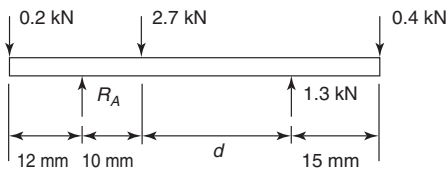

Figure 5.16
1. Calculate the force R_A and distance d for the beam shown in Figure 5.16. The mass of the beam should be neglected and equilibrium conditions assumed.